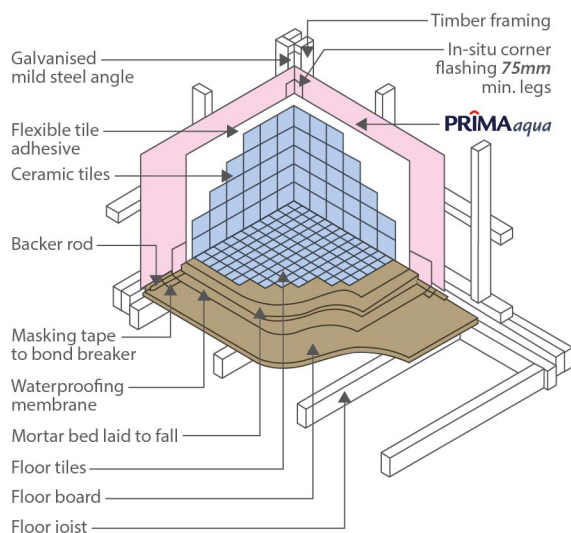
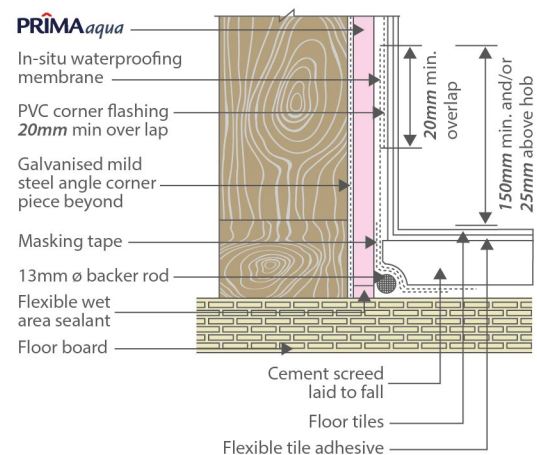

Figure 19: Cast In-situ Internal Membrane
Figure 20: Detail of Cross-section at Wall-to-Floor
Cast In-situ Internal Membrane System must be constructed as follows: Refer to Figure 19 and Figure 20.
6. Apply the waterproofing membrane to the floor and **PRIMA^{aqua}** wall. Waterproofing on **PRIMA^{aqua}** must extend a minimum of 150mm above the finished bathroom floor level or 25mm above the highest possible water level. Refer to Figure 19 and 20. In all cases, refer to membrane manufacturer for details.